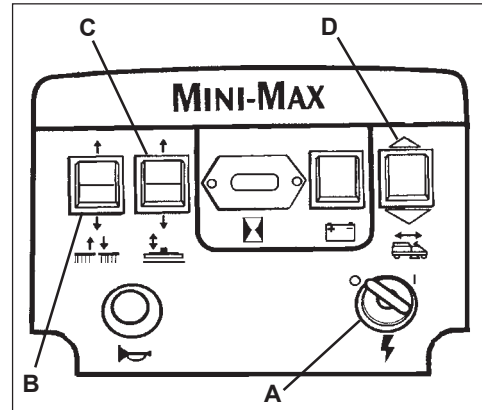

Figure 35
2. Turn the key switch to the "ON" position (see figure 35, item A).
3. Raise the brush to the highest position (see figure 35, item B).
4. Raise the squeegee (see figure 35, item C).
6. Place the forward/neutral/reverse switch to the forward position (see figure 35, item D).
10. To travel in reverse, place the forward/neutral/reverse switch in the reverse position (see figure 35, item D).